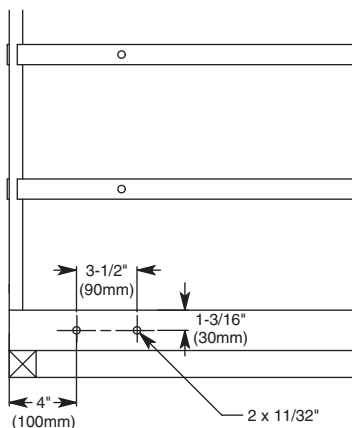

Fig. 19
1. Locate the compressor mounting holes on the front face of the sprayer platform (**Fig. 19**). (If necessary) drill holes as shown (**Fig. 19**)
3. Place the Compressor Box on the mounting bracket with hose fittings facing away from the sprayer's center line (**Fig. 19**).